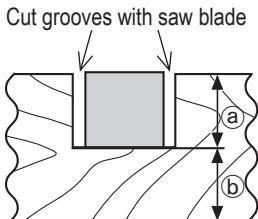

Fig. 52
Grooves in the workpiece can be cut as indicated in Fig. 52 by adjusting the 6 mm depth adjustment bolt.
- Adjust to the desired cutting depth by setting the distance between the saw blade and the surface of the turntable (see (b) in Fig. 52).